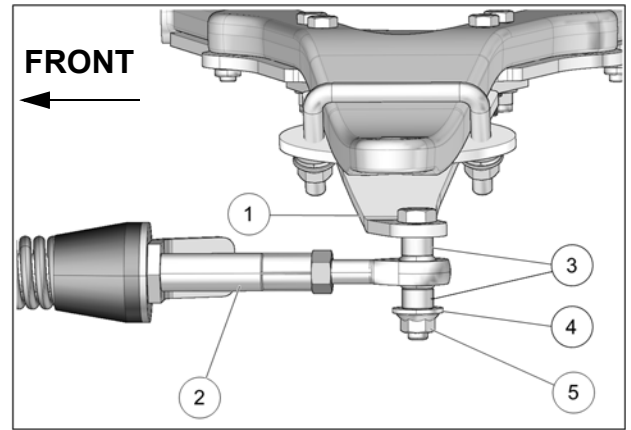

Fig. 20
10. Attach stabilizing rod (2) to anchor bracket (1), using the two spacer bushings (3), flat washer (4) and nut (5). Torque to 70 N•m [52 lb•ft]. See Fig. 20